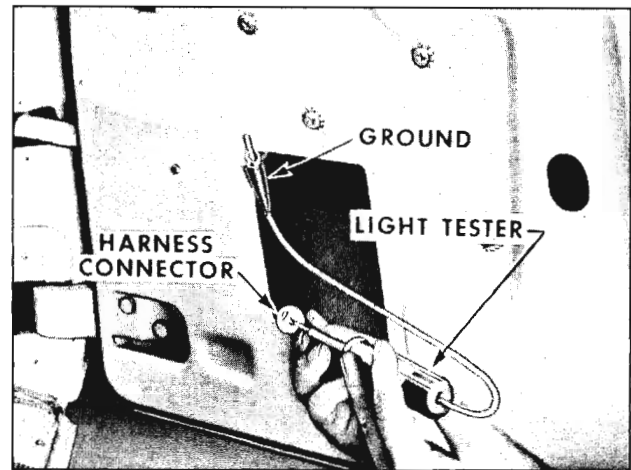

Fig. 16-280 Checking Wiring Between Switch and Motor
3. With light tester check for current at terminal being checked. If tester does not light, there is an open or short circuit in the harness between the control switch and motor connector. (Fig. 16-280)